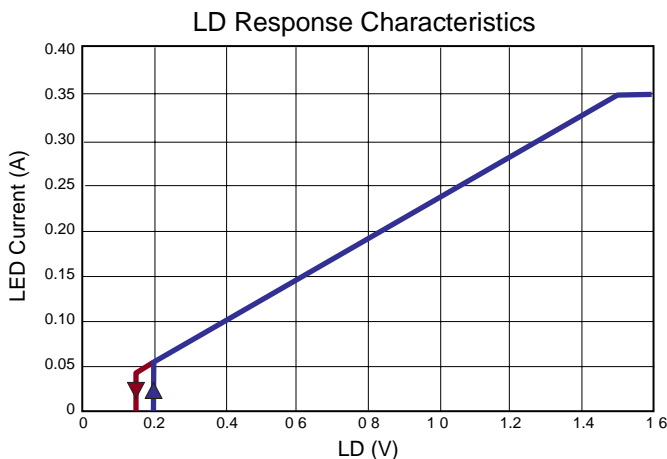

Fig.3. Typical linear dimming response of an FC9961C LED driver
When the voltage at LD falls below $1.5V$, the internal $265mV$ reference to the constant-current feedback becomes overridden by $V_{LD} \cdot 0.177$. As long as the current in the inductor remains continuous, the LED current is given by the equation (3) above. However, when V_{LD} falls below $150mV$, the GATE output becomes disabled. The GATE signal recovers, when V_{LD} exceeds $200mV$. This is required in some applications to be able to shut the LED lamp off with the same signal input that controls the brightness. The typical linear dimming response is shown in Fig.3.